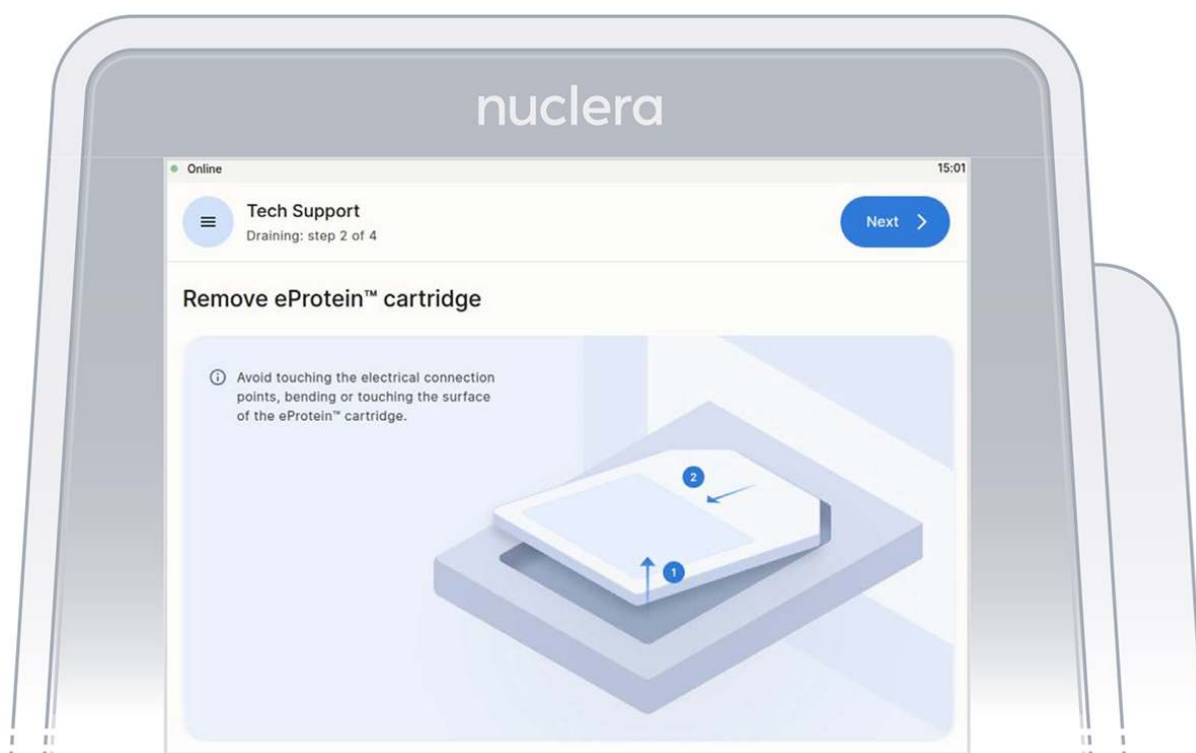

Figure 31: Remove the cartridge from the instrument
1. Remove the cartridge from the instrument drawer by lifting it as shown on the screen and place it in its original packaging. Press the **[Next]** button (Figure 31).